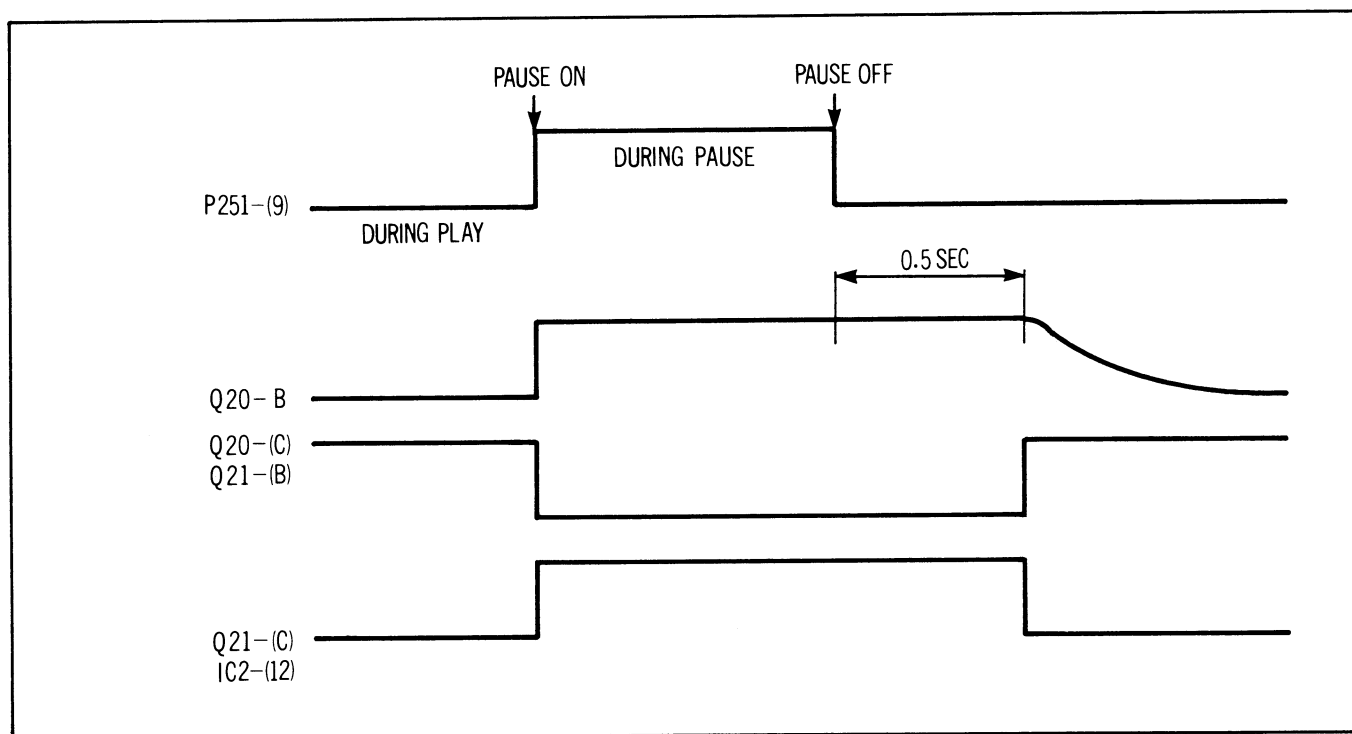

Figure 2-204
When the Pause button is released, P251-(9) becomes a low instantly, but the base of Q20 is delayed 0.5 second by C23, so the collector of Q21 remains high. Since the resistance value (R45) is reduced, C12 is charged quickly. (See Figure 2-204).